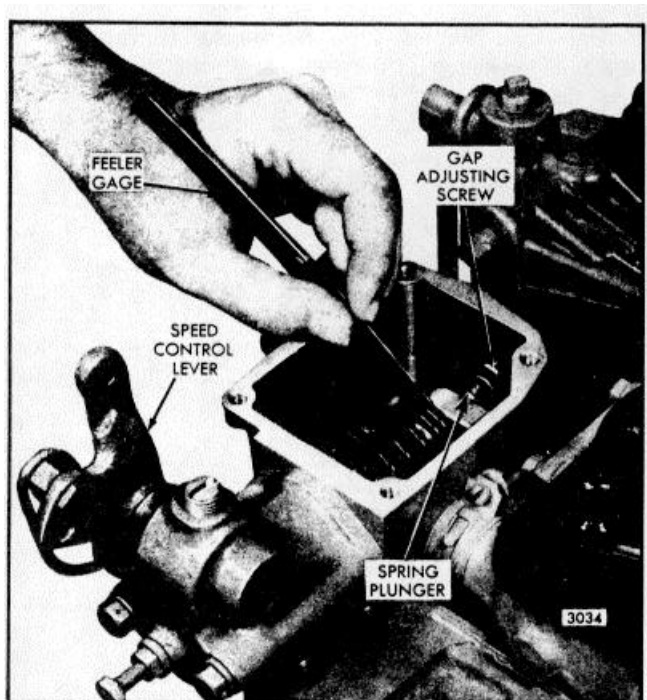

Fig. 1. Checking Governor Gap
4. Place the speed control lever (Fig. 1) in the maximum speed position.
5. Insert a .006 " feeler gage between the spring plunger and the plunger guide as shown in Fig. 1. If required, loosen the lock nut and turn the gap adjusting screw in or out until a slight drag is noted on the feeler gage.